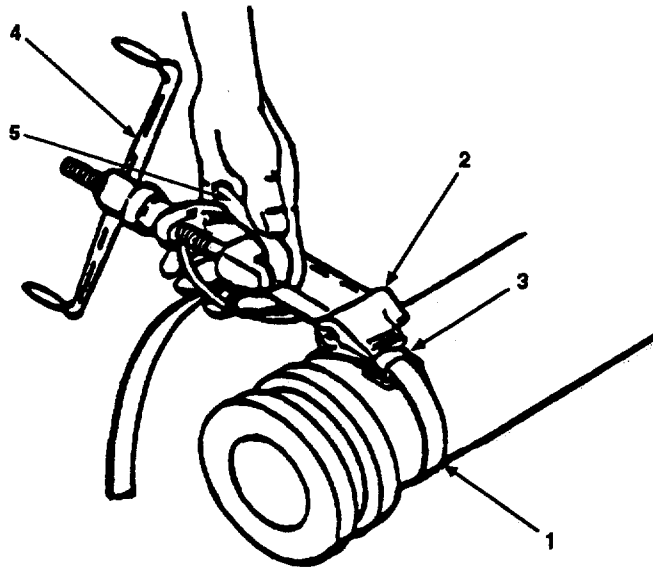

Figure 3-5. Preparing Banding Tool for Use.
- p. Install strapping (Figure 3-5, 1) through open slot of banding tool nose (2). Ensure ears of buckle (3) are facing away from banding tool (4) and band gripper lever (5) is facing up.